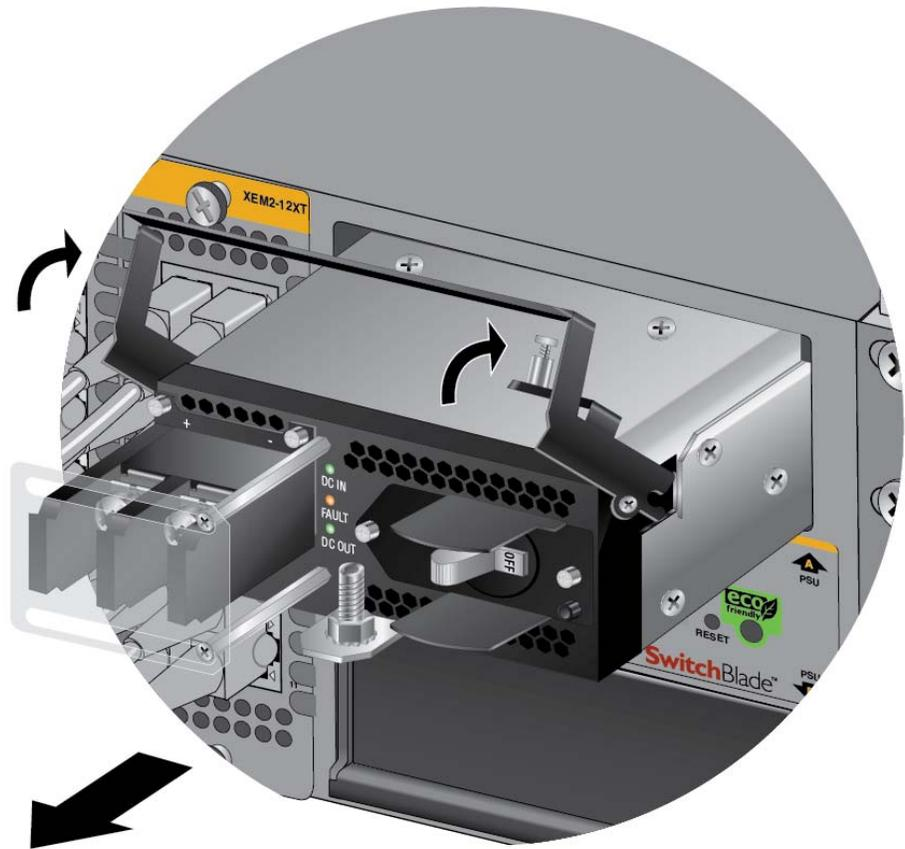

Figure 120. Lifting the Locking Handle and Removing the Power Supply
11. Lift the locking handle and slide the power supply from the chassis. Refer to Figure 120 on page 199.